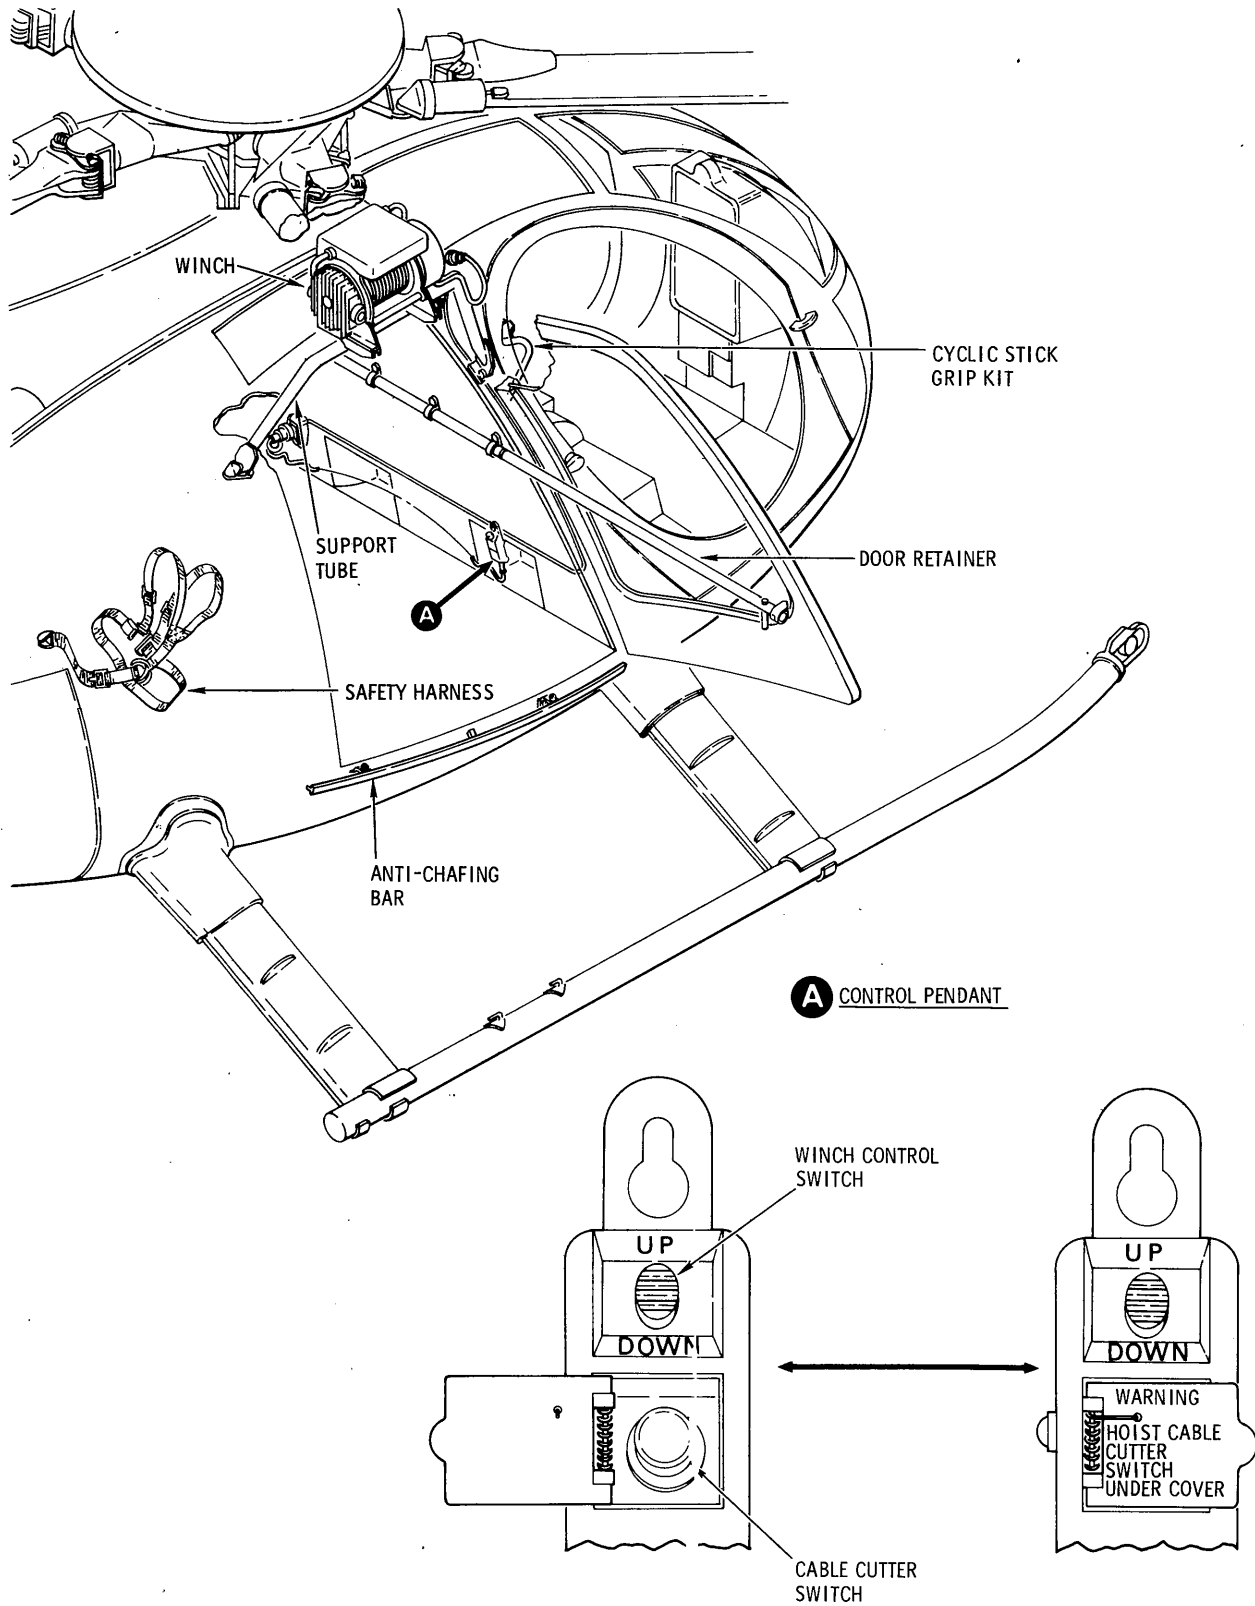

Figure 2-1. Hoist system components
2-2. **DESCRIPTION.** The passenger/cargo hoist kit assembly consists of an electrically operated winch mounted on a support tube, a hoist operator's safety harness, a passenger door (hold-open) retainer assembly, a passenger door sill antichafing bar assembly, a control pendant, and associated electrical equipment. The hoist provides a means for lifting and lowering personnel or objects weighing up to 300 pounds. The hoist system employs lightweight, readily attachable and detachable exterior mounted equipment without using passenger or cargo space in the helicopter. For safety purposes, a guillotine-type cable cutting device is incorporated in the hoist winch assembly. Figure 2-1 illustrates the 500D commercial configuration hoist installed on the right side of the helicopter. The 500MD military configuration is identical except that the hoist is installed on the opposite (left) side of the helicopter. The hoist function is identical when operated from either side of the helicopter. A cyclic stick grip kit must be used on the commercial configuration.
c. Using hoist system control pendant (fig. 2-1), exercise hoist winch by paying out 3 to 4 feet of cable under approximately 15 pounds tension; pull cable straight down to avoid cable rubbing on cable bellmouth. Reverse control and reel cable in. Check that cable winds on winch drum evenly and that winch operation is smooth and consistent. Check that winch stops automatically when top of swivel hook rubber bumper pushes against winch bumper pad.
d. Using hoist pendant control (fig. 2-1), reel off all cable from winch drum as follows: